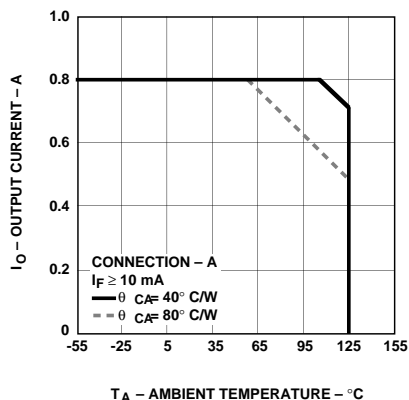
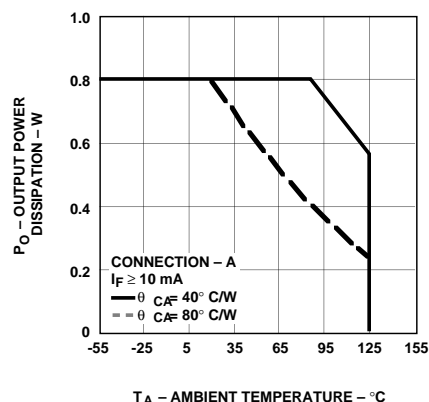

Figure 2. Maximum Average Output Current Rating vs. Ambient Temperature.
Figure 4. Output Power Rating vs. Ambient Temperature.
Average Output Current – Figure 2
Average Output Power Dissipation – Figure 4	800 mW ^[2]
2. For rating, see Figure 4. The output power P_O rating curve is obtained when the part is handling the maximum average output current I_O as shown in Figure 2.
IN ORDER TO DETERMINE V_{OUT} CORRECTLY, THE CASE TO AMBIENT THERMAL IMPEDANCE MUST BE MEASURED FOR THE BURN-IN BOARDS TO BE USED. THEN, KNOWING θ_{CA} , DETERMINE THE CORRECT OUTPUT CURRENT PER FIGURES 2 AND 4 TO INSURE THAT THE DEVICE MEETS THE DERATING REQUIREMENTS AS SHOWN.
Rating curves are shown in Figures 2 and 4. Figure 2 specifies the maximum average output current allowable for a given ambient temperature. Figure 4 specifies the output power dissipation allowable for a given ambient temperature. Above 55°C (for $\theta_{CA} = 80^\circ\text{C/W}$) and 107°C (for $\theta_{CA} = 40^\circ\text{C/W}$), the maximum allowable output current and power dissipation are related by the expression $R_{SS} = P_O(\text{max}) / (I_O(\text{max}))^2$ from which R_{SS} can be calculated. Staying within the safe area assures that the steady-state junction temperatures remain less than 150°C. As an example, for $T_A = 95^\circ\text{C}$ and $\theta_{CA} = 80^\circ\text{C/W}$, Figure 2 shows that the output current should be limited to less than 610 mA. A check with Figure 4 shows that the output power dissipation at $T_A = 95^\circ\text{C}$ and $I_O = 610$ mA, will be limited to less than 0.35 W. This yields an R_{SS} of 0.94 Ω .